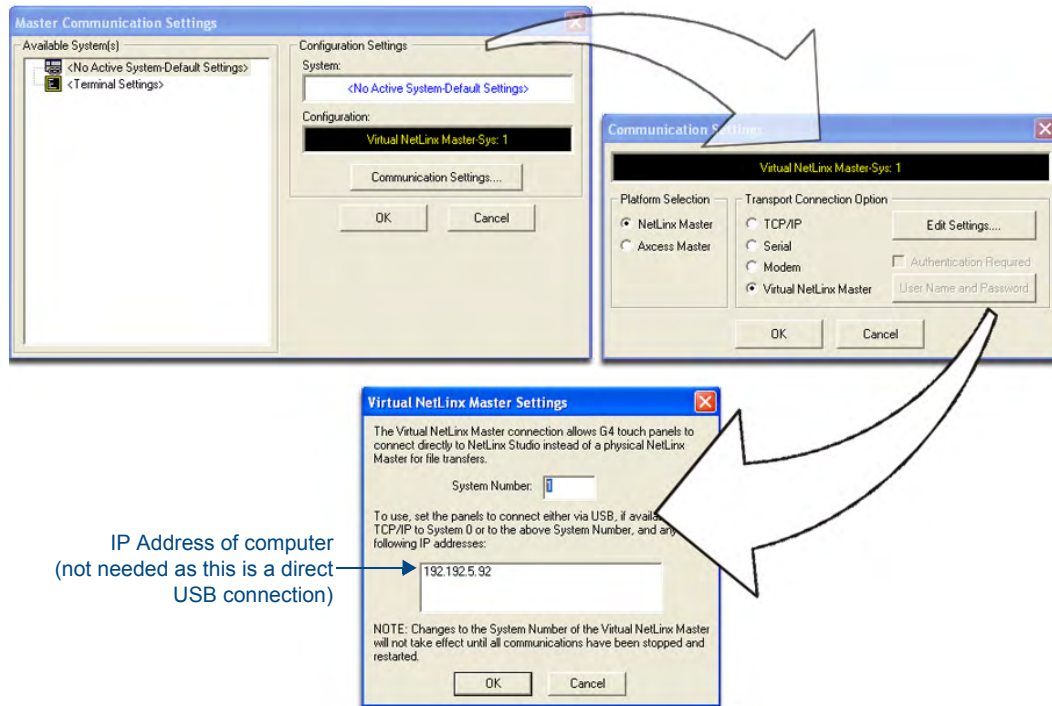

FIG. 47 Assigning Communication Settings for a Virtual Master
2. Select **Settings > Master Communication Settings**, from the Main menu to open the Master Communication Settings dialog (FIG. 47).
6. Click the **Edit Settings** button (*on the Communications Settings dialog*) to open the *Virtual NetLinx Master Settings* dialog (FIG. 47).